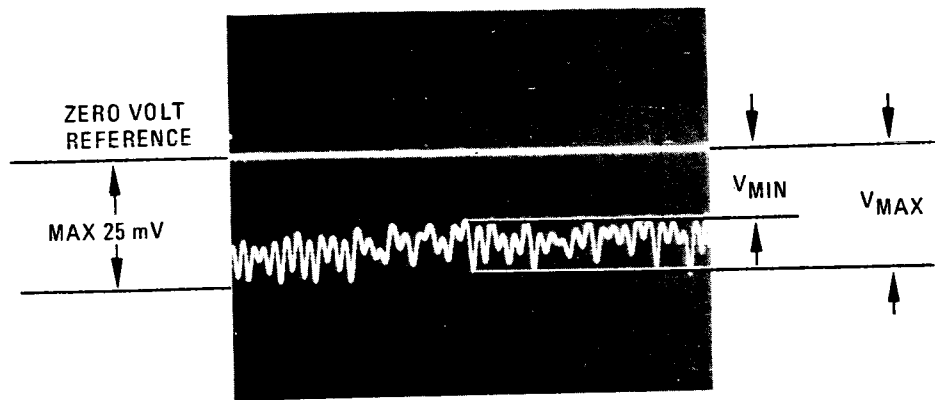

Figure 4-16. Typical Pattern of a Swept SWR Measurement
- d. Note maximum amplitude on oscilloscope. If greater than -25 mV, adjust POWER LEVEL control counterclockwise for -25 mV maximum peak trace to place crystal detector in square-law output range. (Display should be similar to that shown in Figure 4-16.)